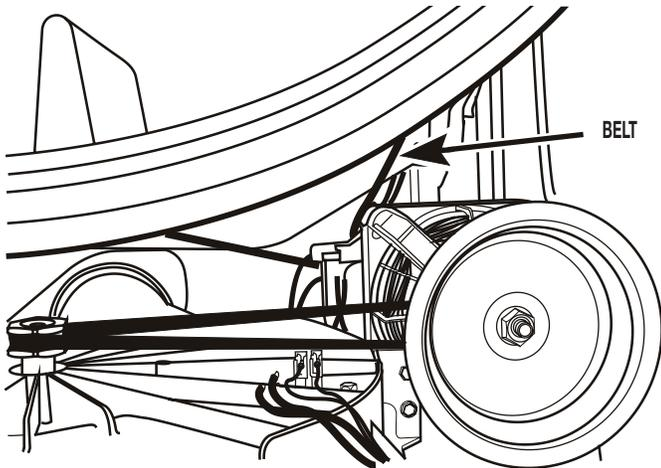

FIGURE 4
5. Reach around the back of the drive motor and push the idler wheel arm to relieve the spring tension on the belt; then slide the belt off the idler and motor pulleys. See Figure 4.